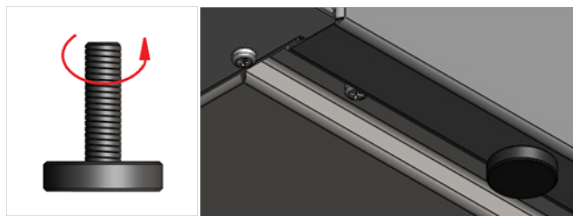

Figure 5. Foot screwed into the bottom of the adjustable stand
1. Remove the feet from the adjustable device (Fig. 5).
3. Fix the base with the adjustable unit with the legs removed earlier (Figure 5)